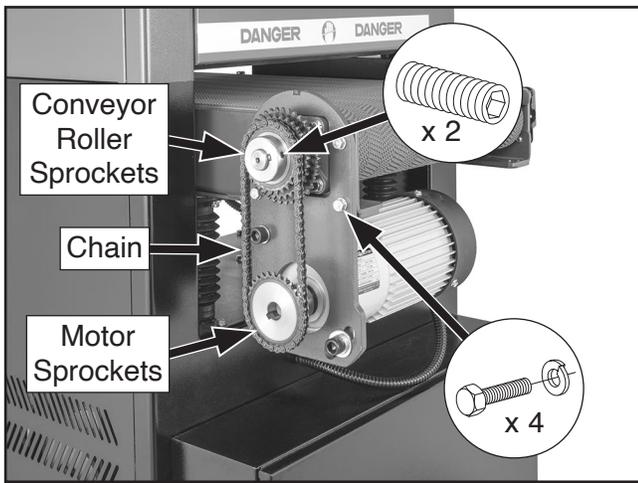

Figure 106. Feed motor assembly removal components.
- Remove chain from sprockets (see **Figure 106**) (refer to **Changing Feed Rate** on **Page 36**).
- Loosen (2) set screws shown in **Figure 106**, then slide conveyor roller sprockets off of shaft.
- With help from an assistant, remove (4) hex bolts and lock washers shown in **Figure 106** to remove feed motor assembly from conveyor table.